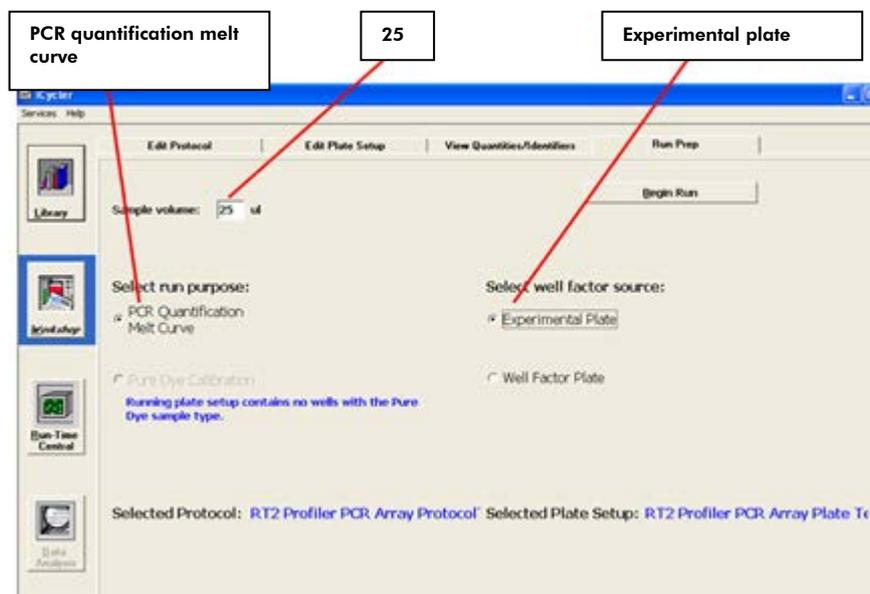

Figure 4. Plate run.
5. In the "Library" module, click to open the "View Protocol" tab. Under "Protocol Files," click to highlight and load the previously saved "CopyNum Array Protocol Template" file. Then click to open the "View Plate Setup" tab; under "Plate Setup Files," click to highlight and load the "CopyNum PCR Array Plate Setup Template" file. Click "Run with Selected Protocol" to initiate the run with the selected plate setup and indicated protocol. This will lead you to the "Run Prep" tab in the "Workshop" module (see Figure 4). Enter the reaction volume (25  $\mu$ l) for the "Sample volume." Select "Experimental Plate" under "Select Well Factor Source." When ready, click on "Begin Run." A "Save" dialog box will open. Enter a name for the optical data file (\*.opd).